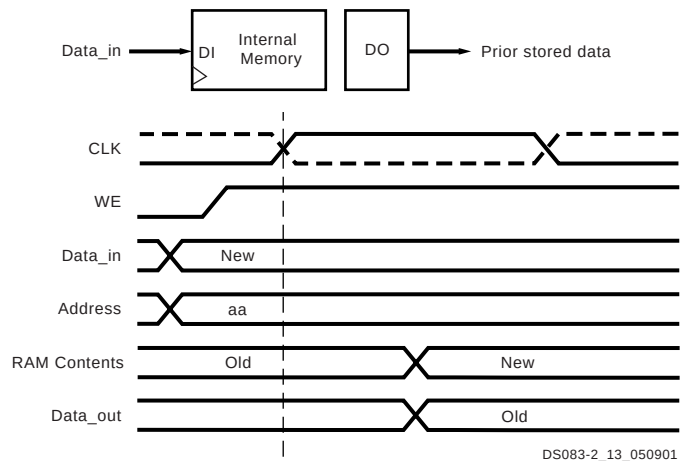

Figure 52: READ_FIRST Mode
The same clock edge that writes data input (DI) into the memory also transfers the prior content of the memory cell addressed into the data output registers DO, as shown in Figure 52.